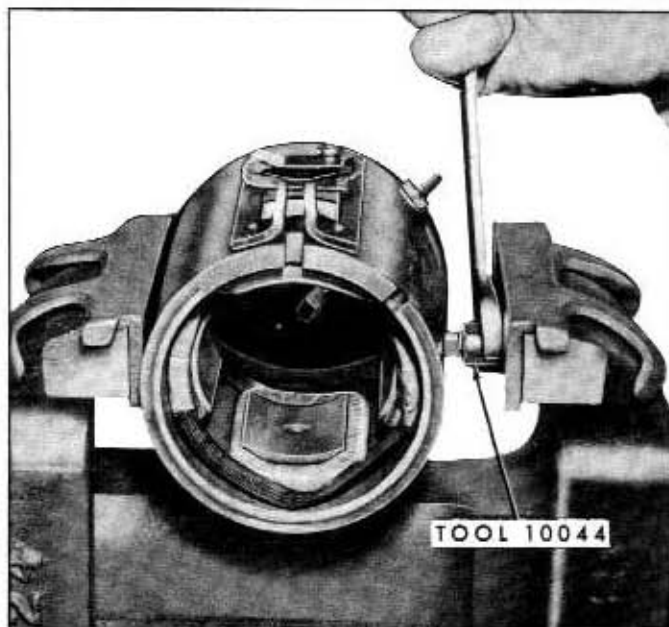

Fig. 10A-34—Removing Pole Screws — Starter—(60C-7692)
1. Insert the starter frame and pole screw remover tool 10044 in a vise; remove the three pole screws securing the field coils to the starter frame. See figure 10A-34.